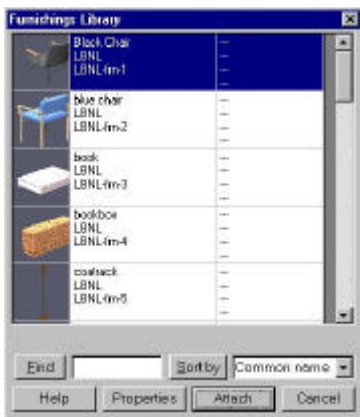

Figure 4. The Furnishings Library dialog box.
31. The "Furnishings Library" dialog box appears (Figure 4). Select the "desk" and click ATTACH